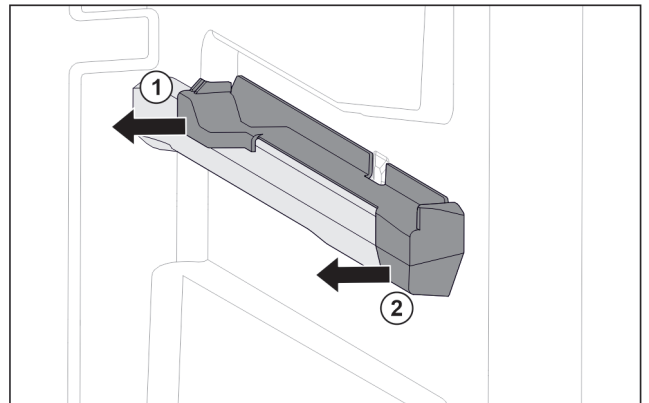

Fig. 82 Attachment on the right moulded rib
- ▶ Pull off attachment at the back sideways. Fig. 82 (1)
- ▶ Pull off attachment at the front sideways. Fig. 82 (2)